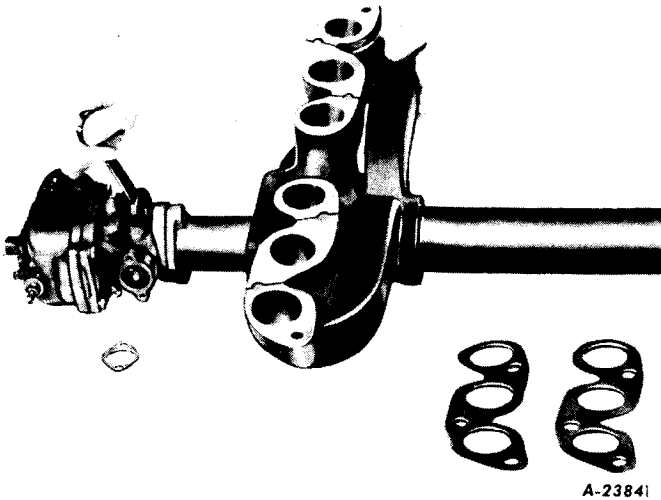

Fig. 8 - Removing the Carburetor from the Manifold
1. Remove the cap screws and lock washers securing the carburetor to the intake manifold (Fig. 8). Wrap the carburetor in a clean cloth until reassembly.
2. Assemble the carburetor to the intake manifold (Fig. 8).